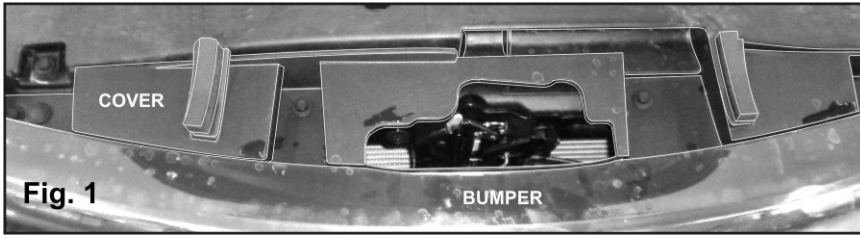

Fig. 1
1. Remove the protective cover just behind the front bumper to access the hood latch assembly (Fig. 1).